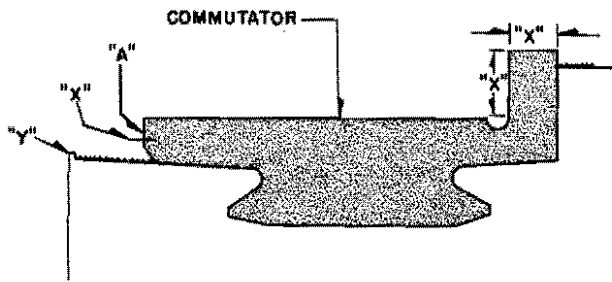

Fig. 11 - Care Of Creepage Surface
The proper care of creepage surface on the armature is extremely necessary to prevent flash-overs. Surfaces marked "X" in Fig. 11 are to be painted with Flintflex Red (153-0895) insulating paint whenever an inspection reveals the need. The recommended procedure is as follows:
4. Extra care must be taken to see that no paint gets into the commutator slots, the relief at the bottom of the commutator neck, or the surface marked "A" in Fig. 11. This trouble will be experienced if care is not taken in applying the paint or if the machine is run while the paint is wet.